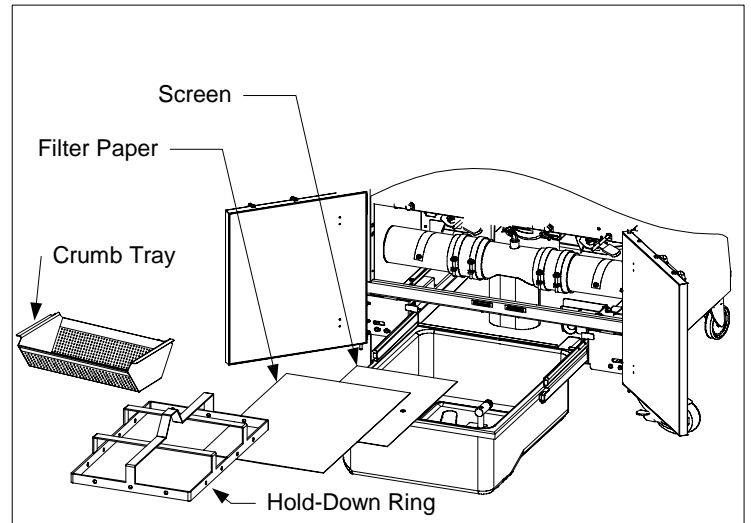

Figure 1
1. Pull the filter pan out from the cabinet and remove the crumb tray, hold-down ring, filter paper and filter screen. (See Figure 1) Clean all components with a solution of detergent and hot water, then dry thoroughly.
3. Then in reverse order, place the metal filter screen in the center of the bottom of the pan, then lay a sheet of filter paper on top of the screen, overlapping on all sides. (See Figure 1) If using a filter pad, ensure the rough side of the pad is up and lay the pad over the screen, making sure that the pad is in between the embossed ridges of the filter pan.